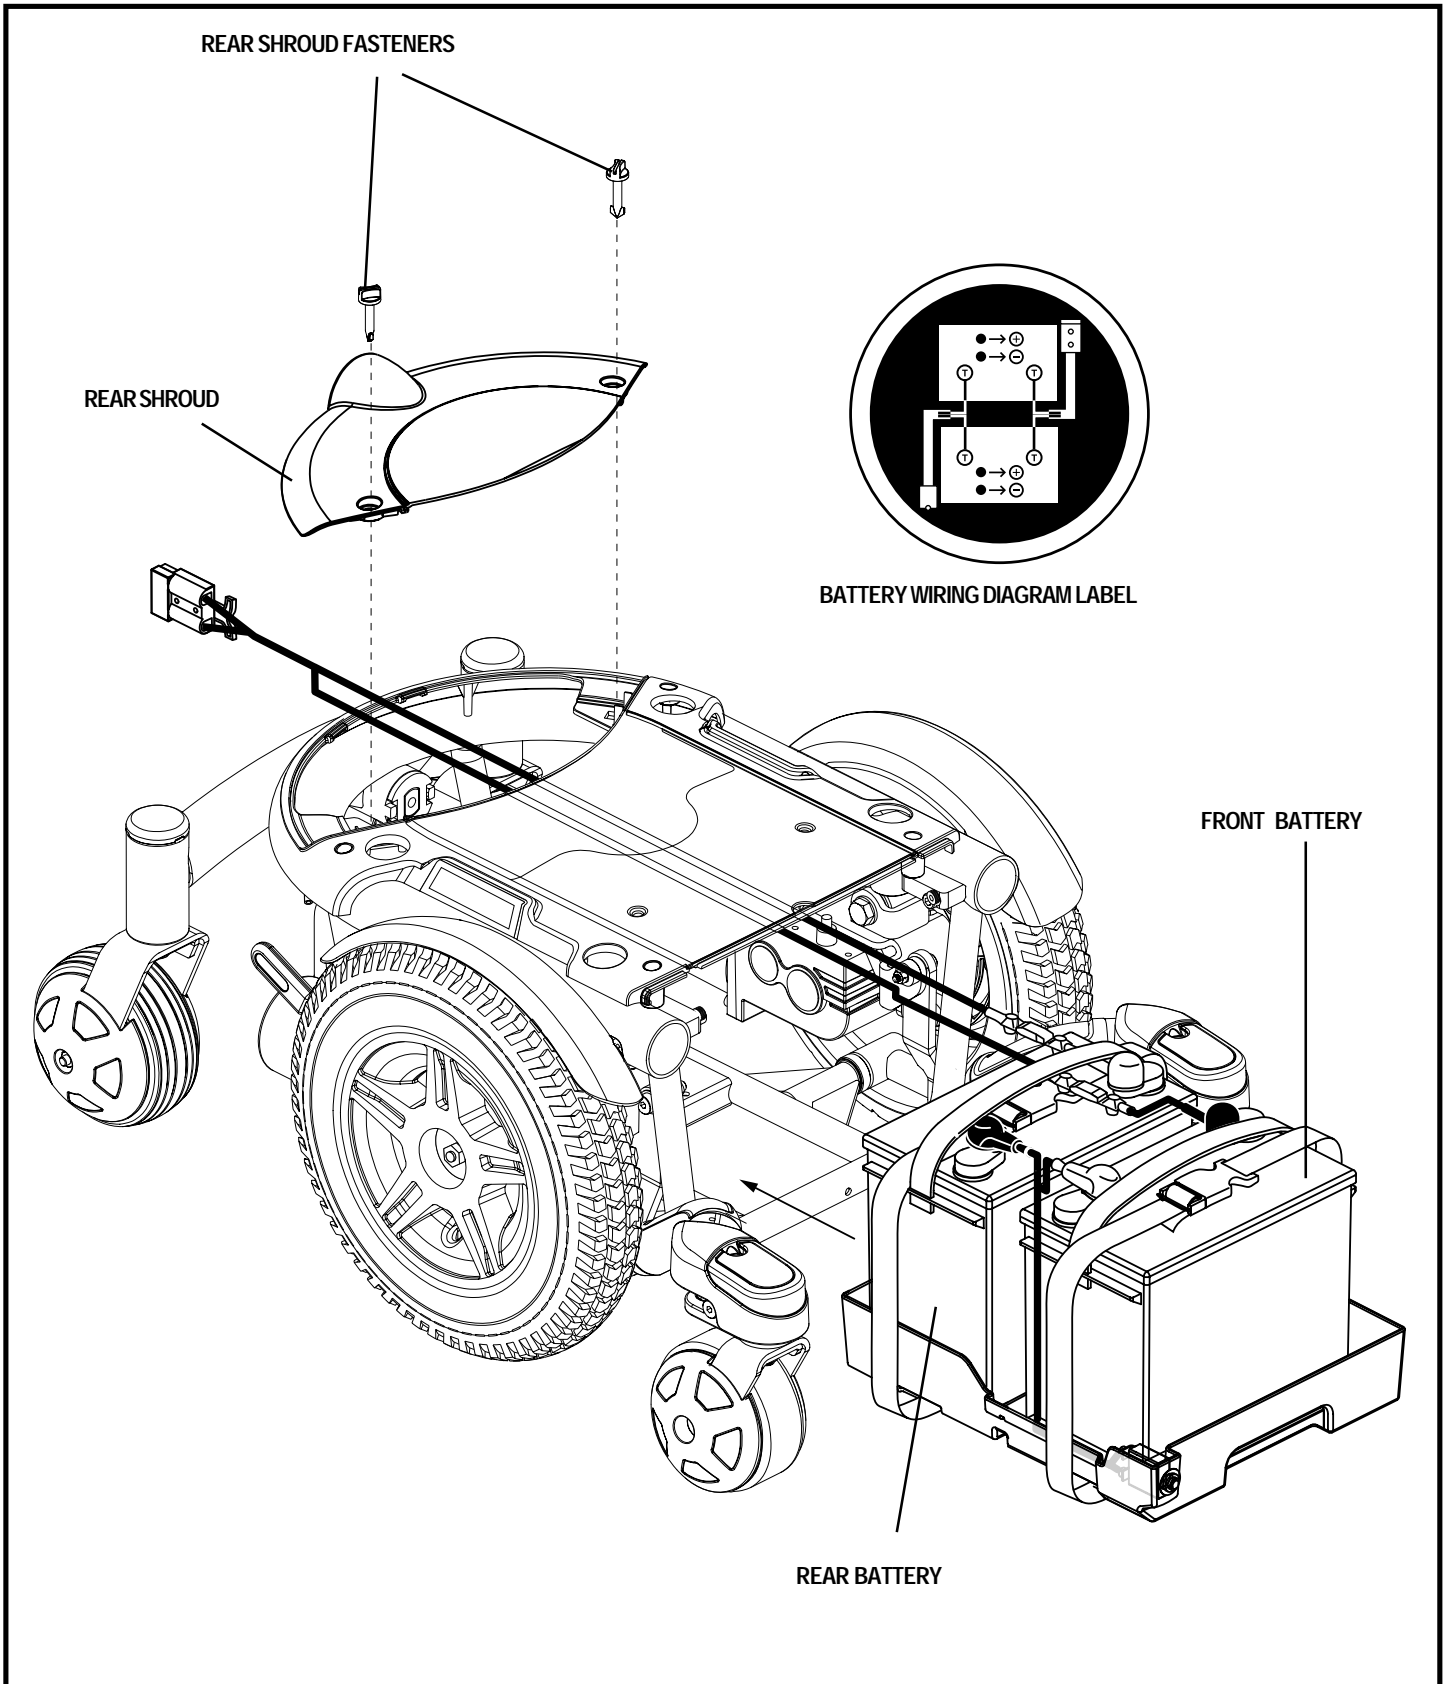

Figure 33. Battery Installation
13. Connect the battery harness to the front battery according to the battery wiring diagram. See figure 33.